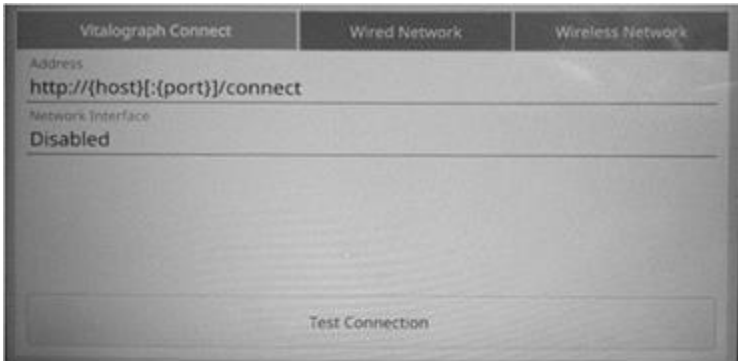

Figure 7 – Example set up for Connect
4. To test the connection, re-select the 'Connect Config' option and press the 'Test Connection' button at the bottom of the screen (see Figure 7).